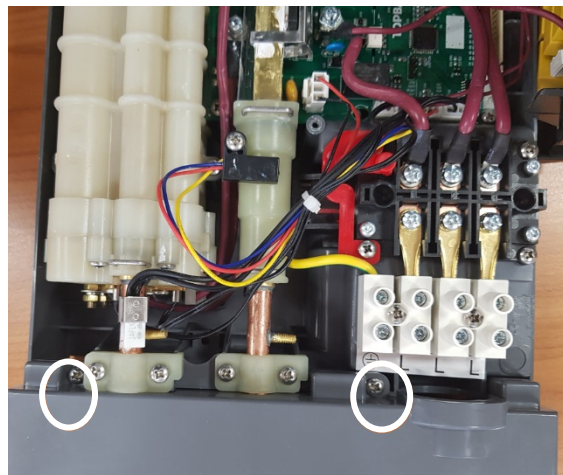

Figure 2: Removing Grey Cover
- c) Remove the grey cover at the bottom of the heater by removing two screws as marked in **Figure 2** on page **20** to access the inlet/outlet and electrical connections.